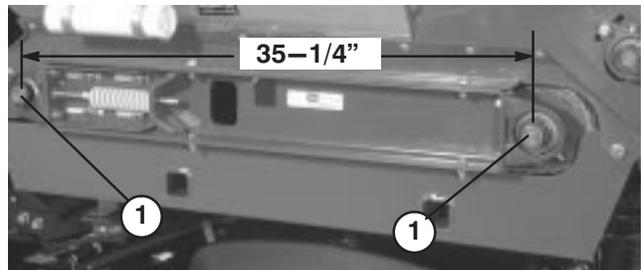

Figure 20
3. Check to insure that the center distance between conveyor belt roller shafts (Fig. 20), on each side of machine, are equal distance (approximately 35–1/4").